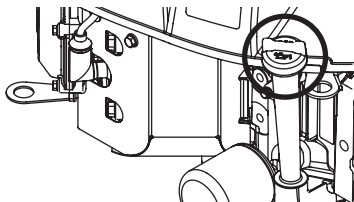

Figure 7
5. Remove the foam pre-filter (c) from around the paper air filter (d) (Figure 7). Replace paper element when dirty or damaged. Clean foam element or replace when damaged.